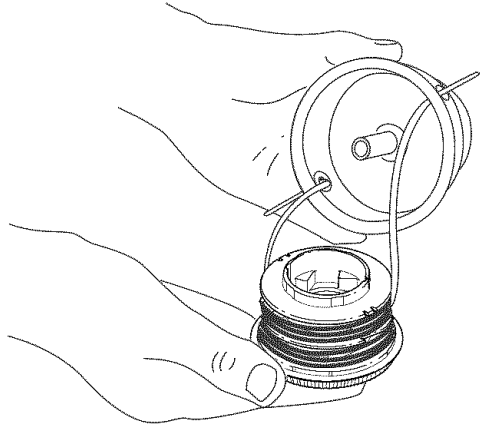

Fig. 25
3. Insert the ends of the prewound inner reel line into the outer spool eyelets (Fig. 25). Push the new inner reel, arrow side up, into the outer spool.